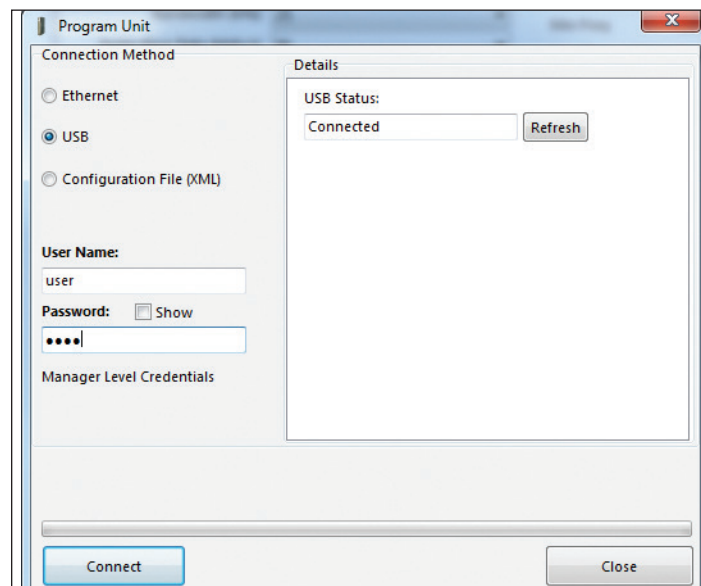

Figure 28.
- Follow the on-screen instructions to install the software (see **Figure 28**).